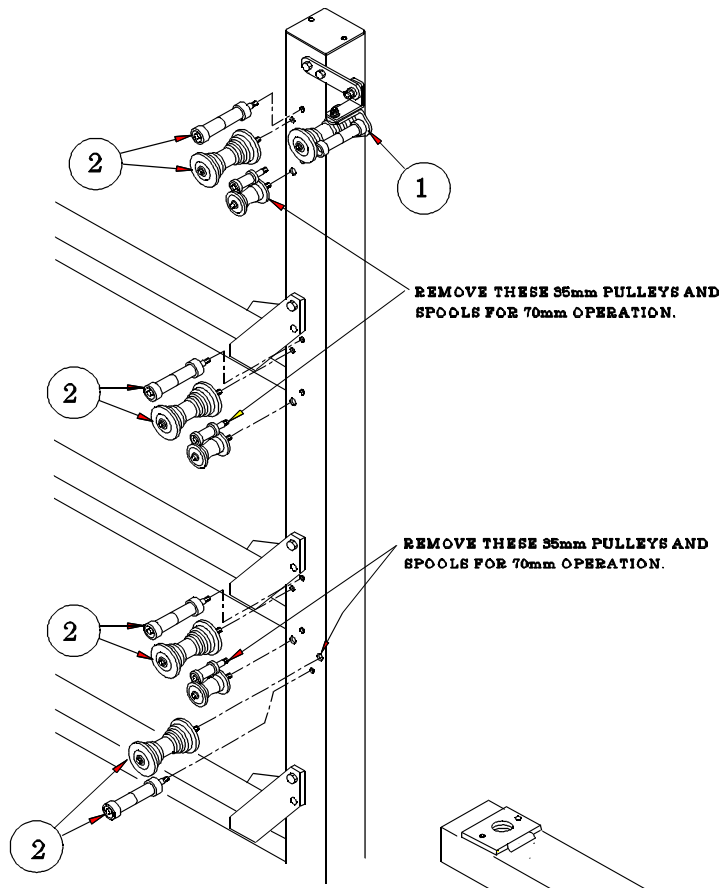

FIGURE 1
2. Install new 70mm Column Shaft & Pulley Assemblies (1552), new Column Pulley Shafts (1655) and Spool Assemblies (1491) in the new holes in the column as shown in Fig. 1, (page 2).